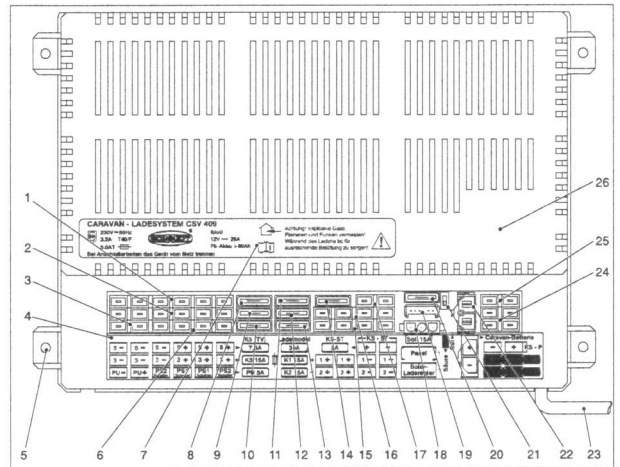

Fig. 2 CSV 409 A caravan charging system viewed from front
- You must ensure that the battery selector switch (Fig. 2, Pos. 21) is set to the correct position for the type of battery being used.